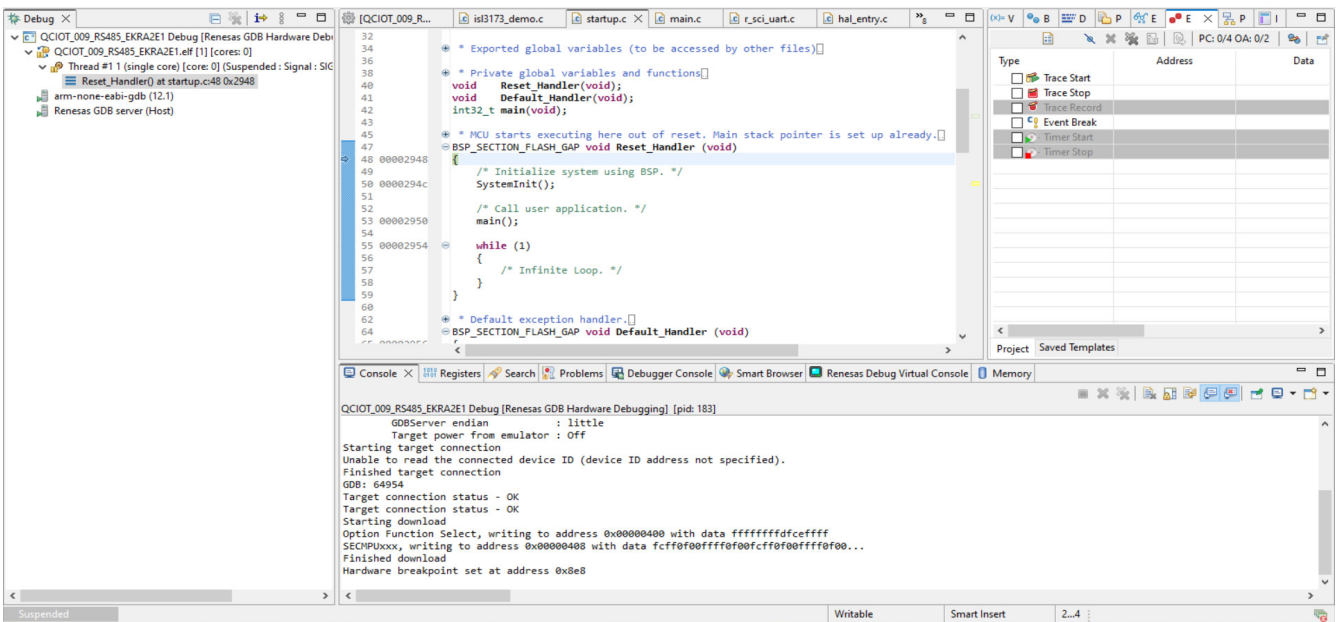

Figure 17. Code Debugging
4. The code enters debug mode as shown in Figure 17.